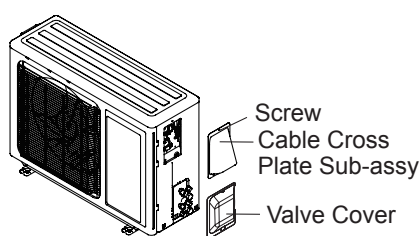

Fig. 21
- (1) Remove the screw on the right cable cross plate sub-assy and valve cover of outdoor unit and then remove the cable cross plate sub-assy and valve cover.(As show in Fig.21)